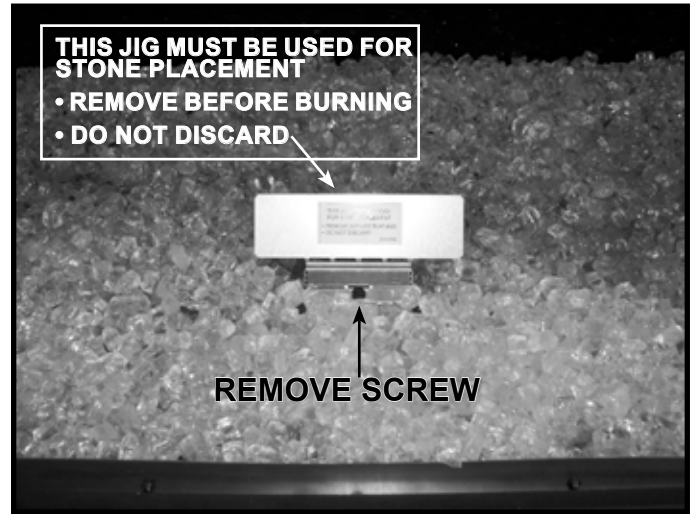

Figure 11.7 Remove Rock Fixture Assembly (Optional Clear Glass Media Shown)
1. Place media evenly on the base pan. Figure 11.7 shows properly placed media.
5. After the media is properly installed, carefully remove the rock fixture assembly. Do not allow any media to fall into the opening. See Figure 11.7. Store the rock fixture assembly under the appliance for future use.